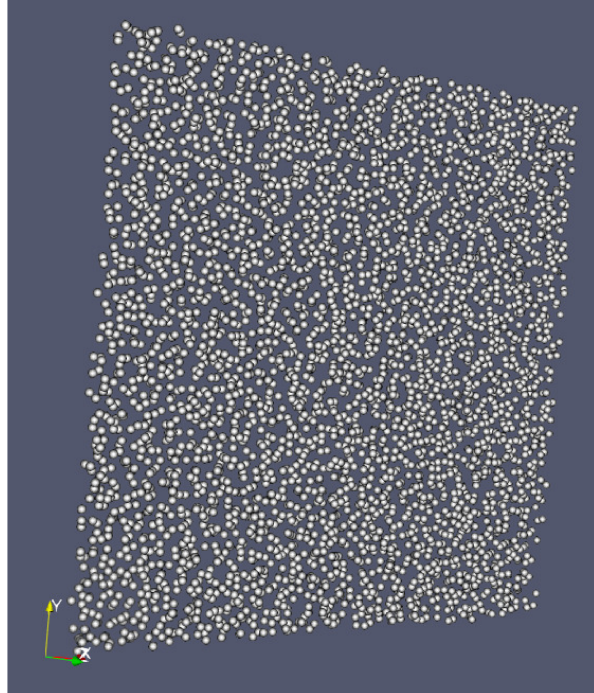

Fig. 18.4: : Particle image generated with ParaView
4. Change the Gaussian Radius if you like. You can scroll through the frames with the VCR-like controls at the top, as shown in Fig. 18.4.